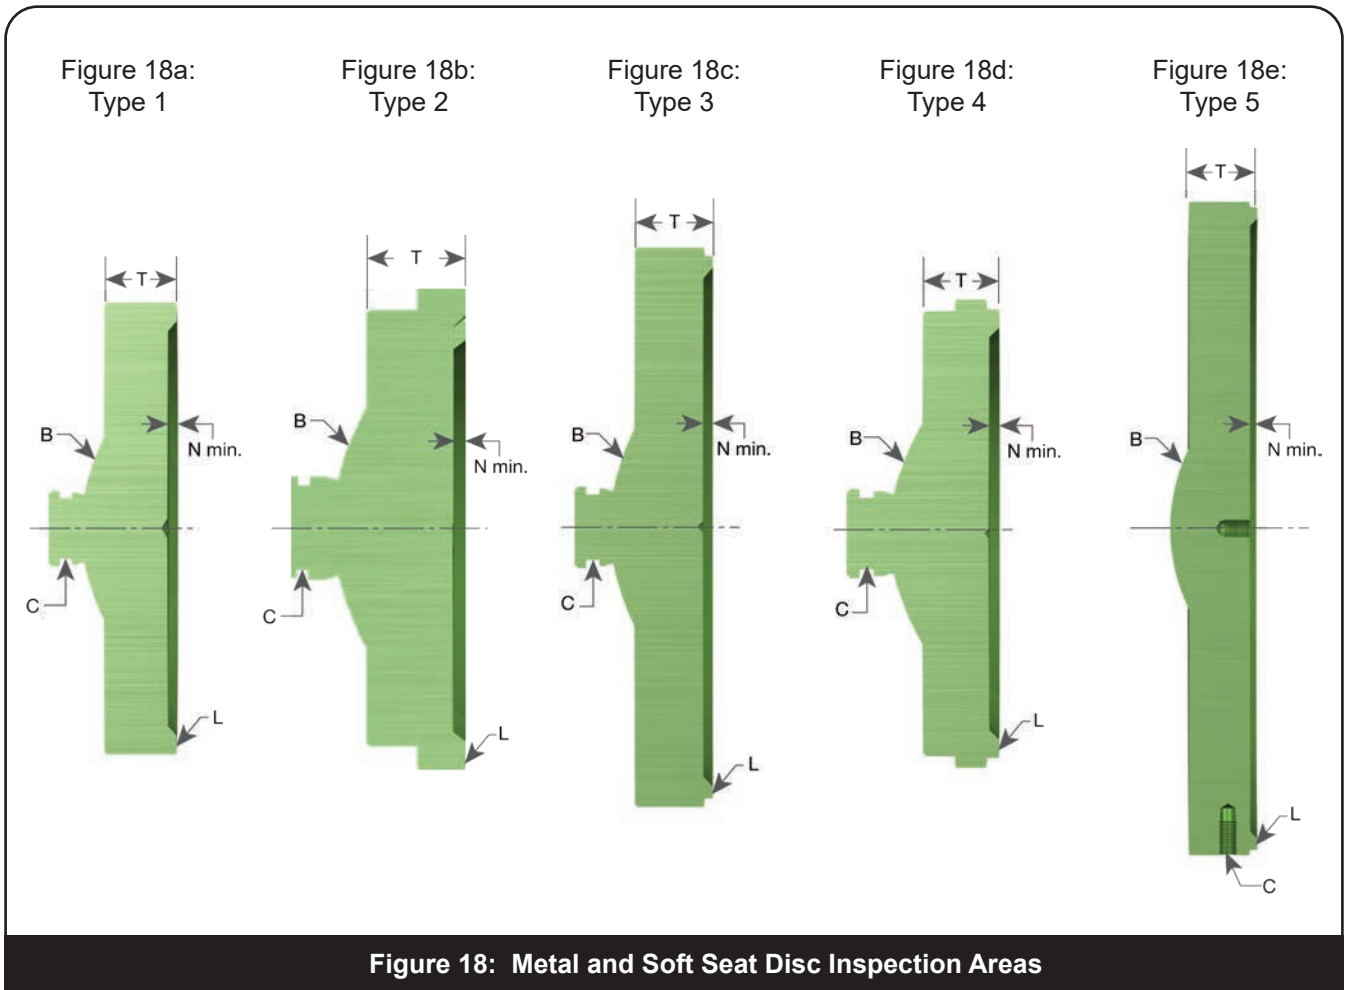

Figure 18: Metal and Soft Seat Disc Inspection Areas
5. Discard the disc if the minimum dimension N or T (Figure 18, Table 5) is reached. Do not reestablish surface C.
7. Standard Metal Seated Disc: This disc (Figure 18) can be machined until the T dimension is reduced to the minimum, as listed in Table 5. The N min. dimension must be maintained as well.